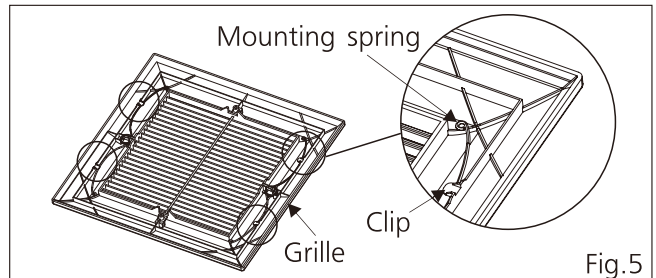

Fig.5
7. Take out the mounting springs of grille from clips. (Fig.5)